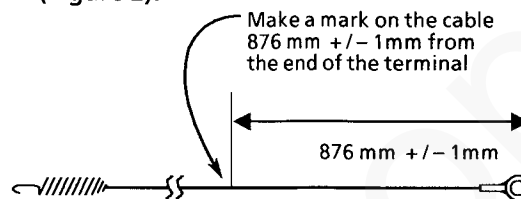

Figure 2. Making a Mark on the Scan Cable
2. Make a mark on the new Scan Cable. Mark both cables if both cables will be replaced. (Figure 2).